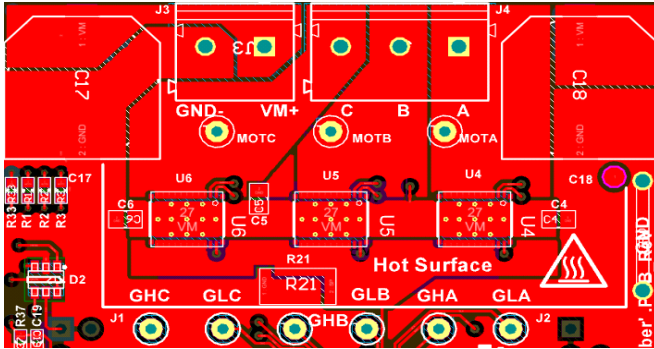

Figure 5-6. Top Layer
- Use the smallest drill size allowed by the design. The example in Figure 5-6 uses vias with a 10-mil drill hole and a 16mil solder pad.